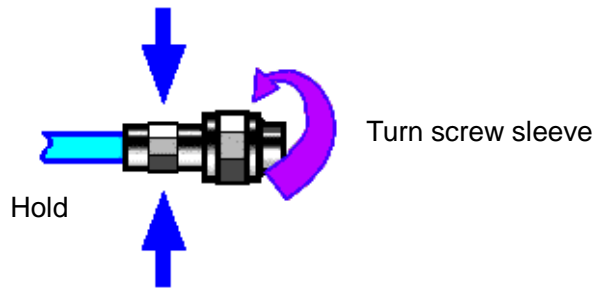

Fig. 3.7 Diagram of Connector Rotation
Step 2. As shown in Fig. 3.7, horizontally move two connectors to make them connected smoothly. Tighten the connector nut through rotation (do not rotate the connector). Avoid relative rotation of connectors during connection.